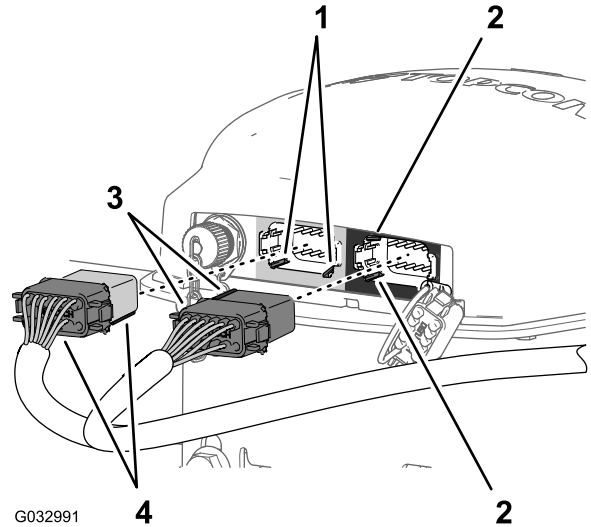

Figure 141
horizontal wall of the left (gray) 12-pin connector of the navigation receiver (Figure 141).
4. Plug the AGI4 A KEY (GREY) connector of the data harness into the left (gray) 12-pin connector of the navigation receiver until the connector locks snap together securely (Figure 141).
5. Align the 2 keys at the short side of the 12-socket connector—data harness labeled AGI4 B KEY (BLACK) with the 2 key slots in the left, vertical wall of the right (black) 12-pin connector of the navigation receiver (Figure 141).
6. Plug the AGI4 B KEY (BLACK) connector of the data harness into the right (black) 12-pin connector of the navigation receiver until the connector locks snap together securely (Figure 141).